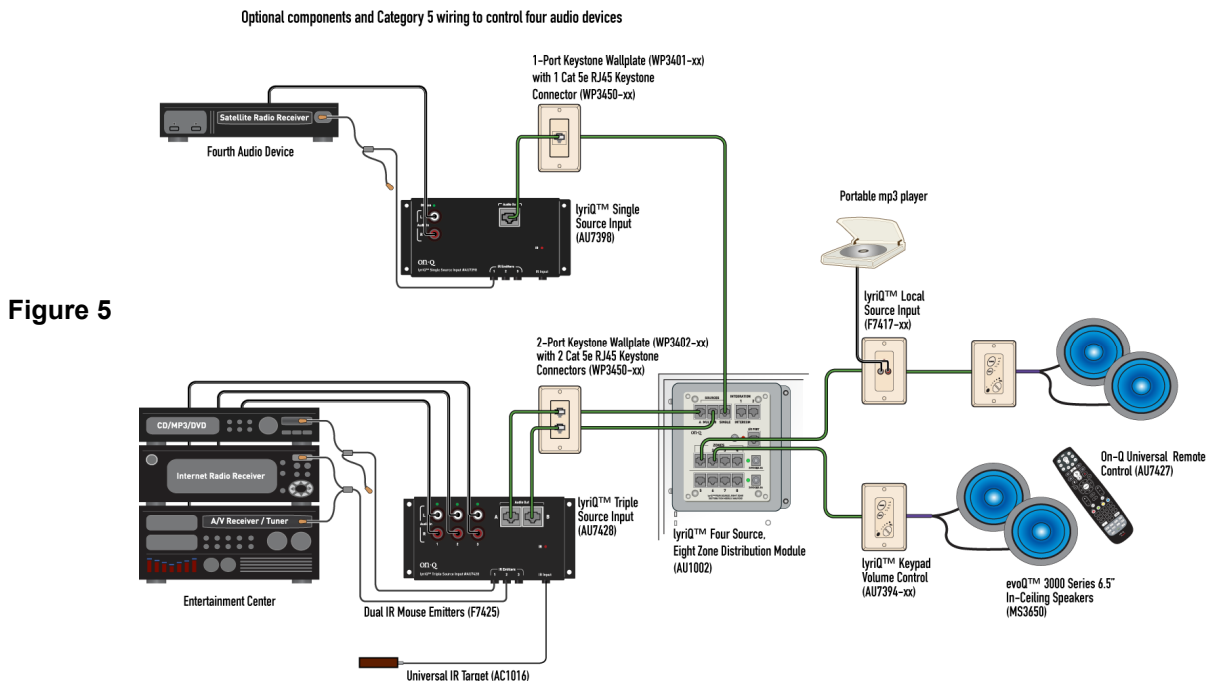

Figure 5
- The output from FOUR audio devices can be distributed throughout the house by also using a lyriQ™ Single Source Input (P/N AU7398) along with the Triple-Source Input. Plan ahead for this by running a third Category 5 cable from the Enclosure to the room containing the fourth source audio equipment (see **Figure 5**).
NOTE: Refer to Figure 5 on the prior page while performing the following installation: